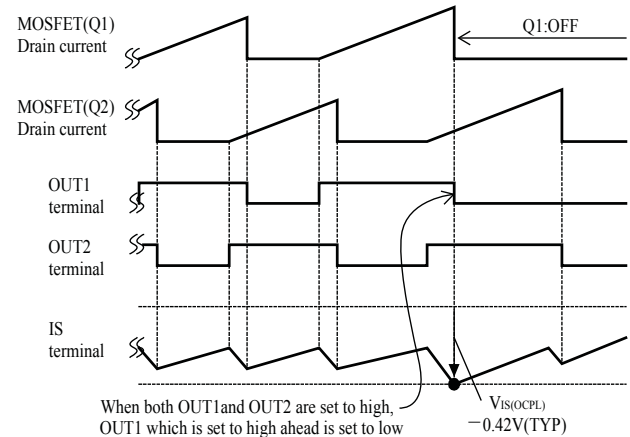

Figure 15. $V_{IS(OCPL)}$ operation waveform after both OUT1 and OUT2 are set to high
- If both OUT1 and OUT2 are high when the fault occurs, the output that went high earlier than the other output (considering the current pulses only) is now set low (the other output remains high). Figure 15 is an example where both OUT1 and OUT2 are high (Q1 and Q2 are on), and the IS terminal detects $V_{IS(OCPL)}$ or lower. Under this condition, because OUT1 was set high before OUT2 was, OUT1 is now set low (and OUT2 remains high).